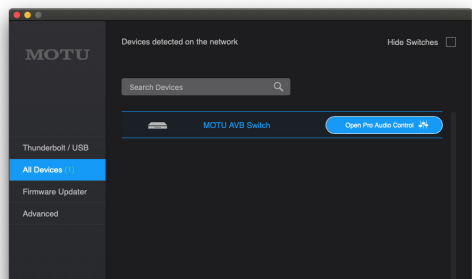

Figure 2-3: The MOTU AVB Switch in MOTU Discovery.
- 5 Click the *All Devices* tab. You should now see your switch in the list of AVB devices on the network (Figure 2-3).